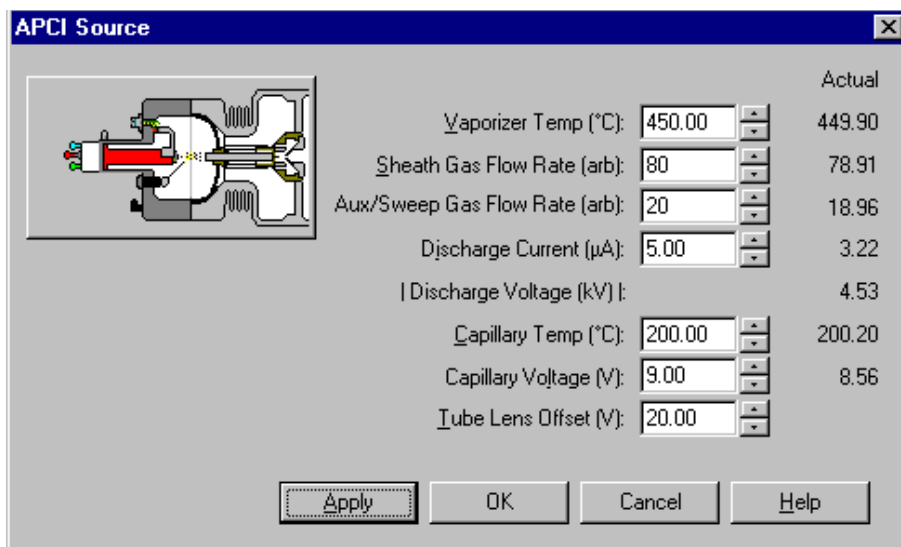

Figure 23. APCI Source dialog box, showing the proper settings for a typical high flow experiment
- c. On the Instrument Setup toolbar, click on the API Source button to open the APCI Source dialog box (Figure 23).
- d. Verify that the settings in your dialog box are similar to those shown in Figure 23.